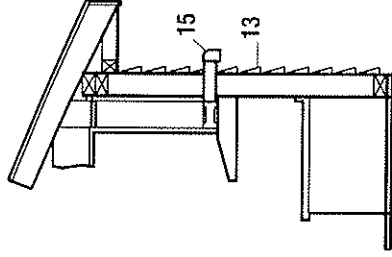
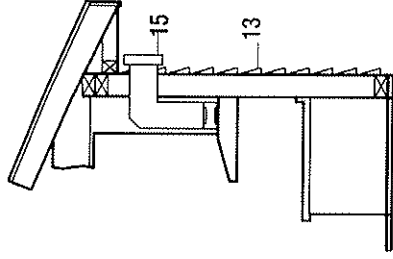
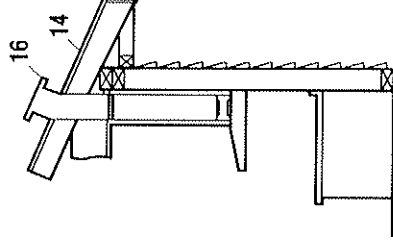

Fig. 5
Fig. 6
Fig. 7
- Your venting system must vent to the outdoors either horizontally through the back wall (13) or vertically through the roof (14) (refer to Fig. 5/ Fig. 6/ Fig. 7).